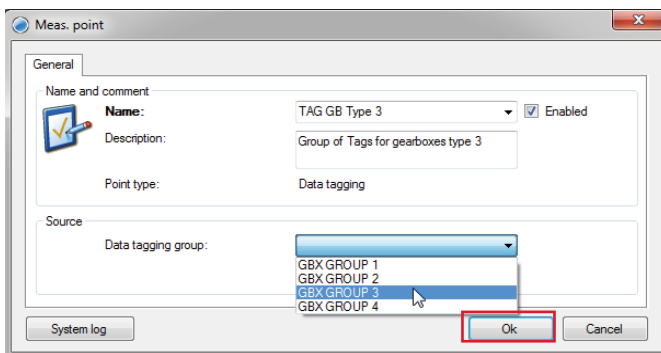

Fig. 9. Give the point a name and description.
- Give the point an appropriate name and description (→ **fig. 9**).